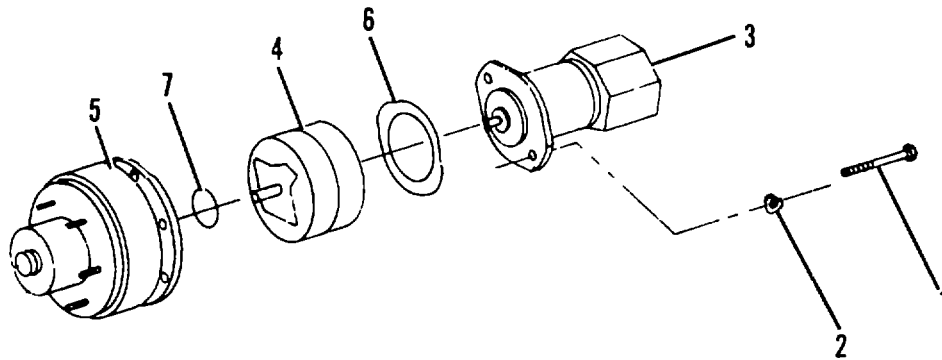

Figure 4-12.1. Hydraulic Brake Replacement.
- (p) Place new preformed packing (7, Figure 4-12.1) on face of brake assembly (4).
- (q) Place new gasket (6) on face of drive motor (3).
- (r) Assemble drive hub (5), brake assembly (4) and drive motor (3). Install two capscrews (1) and washers (2). Tighten capscrews securely.